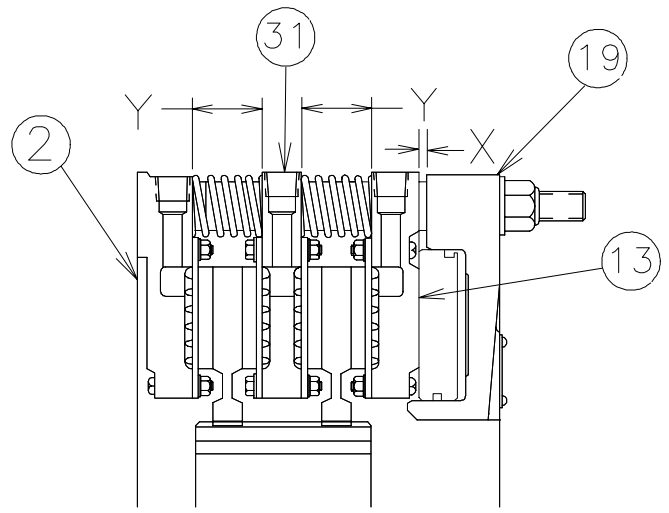

Figure 14
Apply approximately 25 PSIG (1.7 bar) air pressure to the cylinder to engage the tensioner. Measure the gap "X" between the cylinder (19) and the pressure plate (13) or the gap "Y" or "Z" between the pressure plate (13) and the reaction plates (31) and the gap "Y" between the reaction plate (31) and the mounting flange (2) as shown in Figure 14, 15 and 16. If the gap exceeds the limits shown in Table 10, the friction discs and/or wear plates must be inspected to ensure that the wear limits listed in section 7.0.